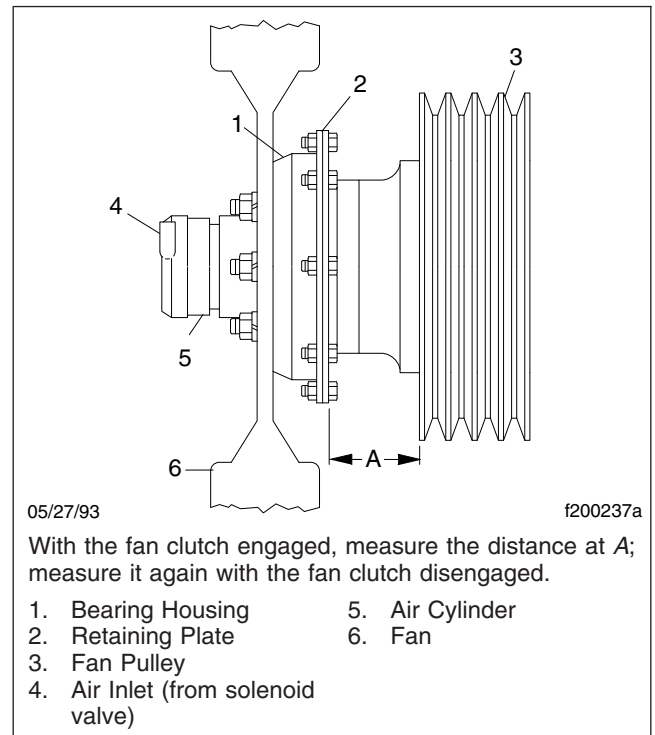

Fig. 5, Kysor K26RA Fan Clutch Lining Wear Check
2. Measure the distance from the back surface of the fan clutch retaining plate to the forward-most edge of the fan belt pulley. See **Fig. 5**, Ref. A.